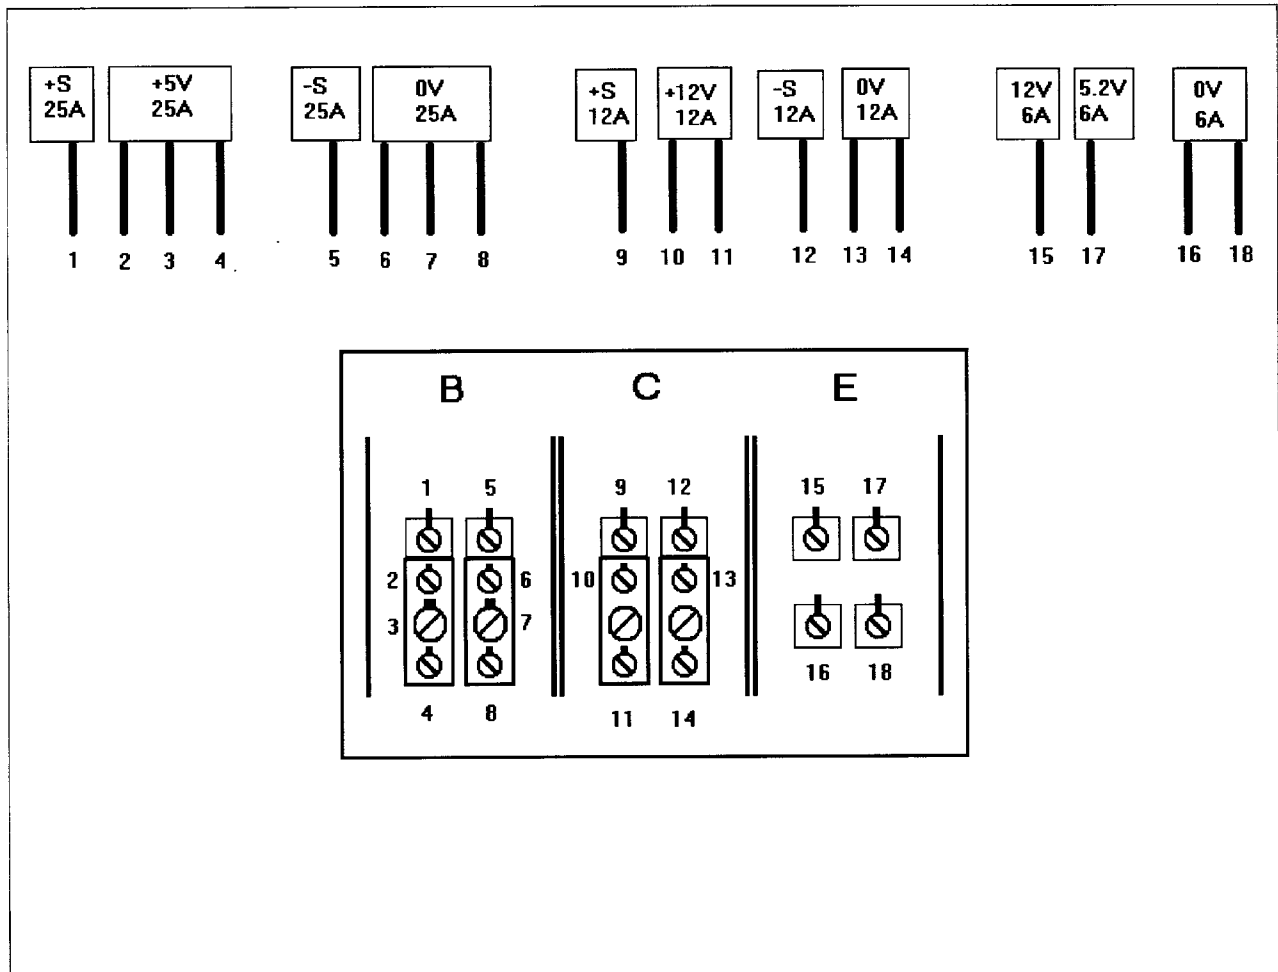

Figure 2 - Wiring New Low-voltage Cable Onto New Adaptors on the PSU Module
14. Attach each wire from the new Low-voltage Cable onto the new adaptors on the PSU module as shown in Figure 2.